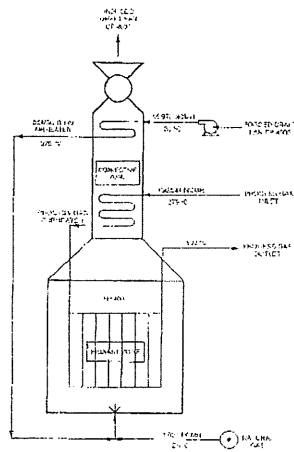

Figure 1
- c) Refer to the process heater diagram (Figure 1), show the procedure to start up the process heater safely. (6 marks)